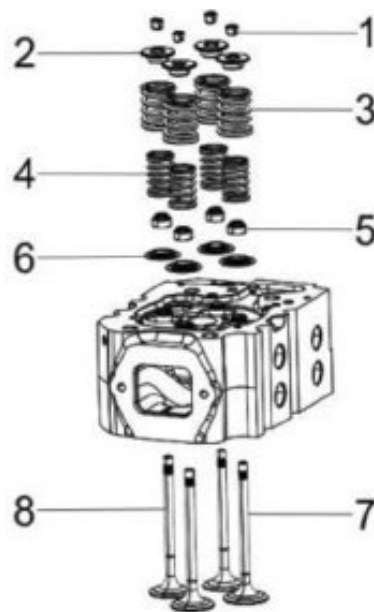

Figure 54. Cylinder Head Assembly
4. Remove the valve keepers (Figure 54, Item 1).
6. Remove the spring top retainer (Figure 54, Item 2) and outer/inner valve spring (Figure 54, Items 3 & 4).
8. Turn the cylinder head so the exhaust port side faces down. Remove the intake and exhaust valves (Figure 54, Items 7 & 8) from the cylinder head.
9. Remove the valve stem seals (Figure 54, Item 5).
10. Remove the spring bottom retainer (Figure 54, Item 6).